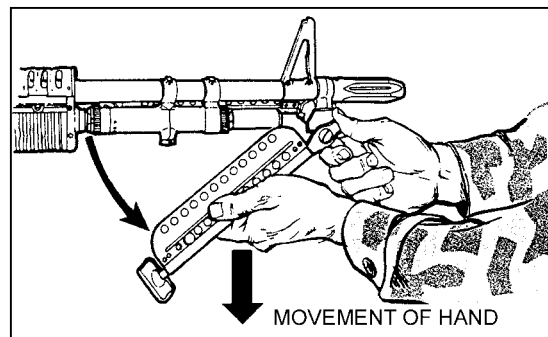

Figure 2-23. Adjustment of the bipod leg extension.
b. To extend a bipod leg, the gunner pulls down on the foot. The bipod leg plunger engages a notch in the bipod leg extension and holds it in the desired position. To shorten the bipod leg, the gunner depresses the bipod leg plunger and pushes up on the bipod foot (Figure 2-23).